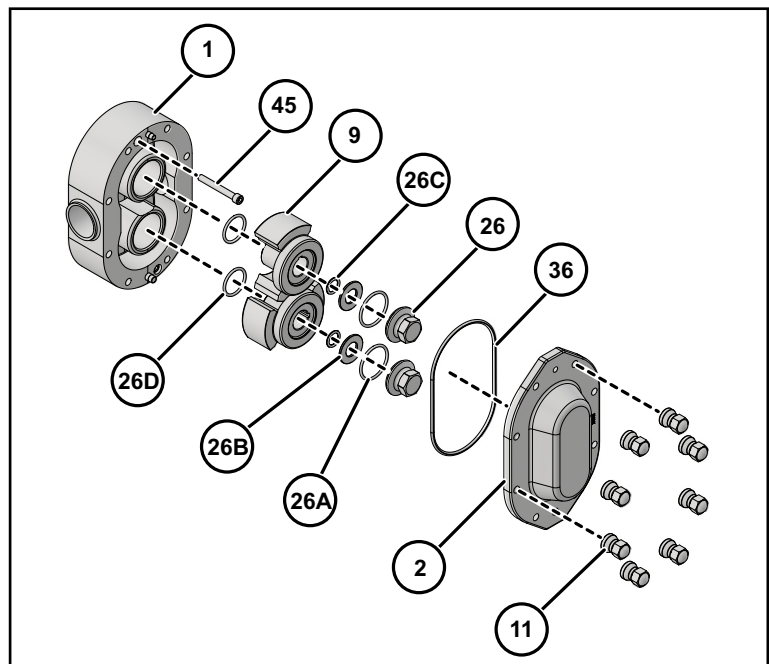
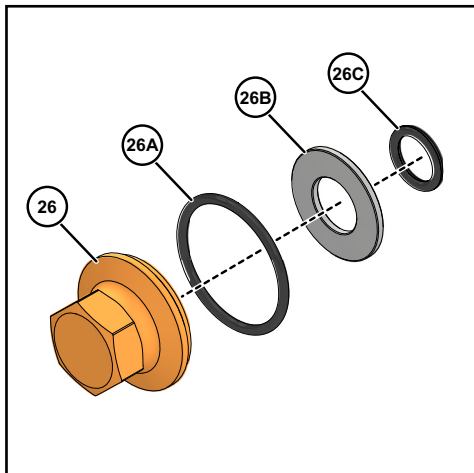
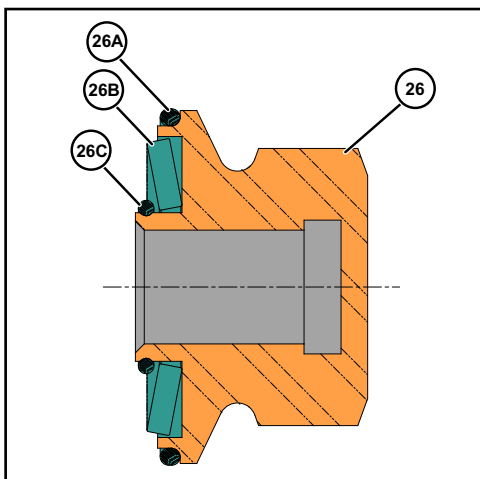

Figure 72 - Exploded View of Fluid Head
Figure 73 - Rotor Nut Assembly
Figure 74 - Cross-Section View of Rotor Nut Assembly, as Assembled
2. Install the body (Figure 72, item 1) to the gear case assembly, aligning the body with the body studs. Avoid damaging the seals as the body is drawn over the shafts.
3. Secure the body to the gear case using two cap screws (Figure 72, item 45).
1. Lubricate the rotor hub O-ring (Figure 72, item 26D) with a lubrication compound compatible with the O-ring material and process fluid(s).
2. Install new rotor hub O-rings (item 26D) into the groove on the rotor hubs.
3. Install the rotors (item 9) onto the shafts.
4. Align the keyways in the rotors with the keyways on the shafts and install the keys (item 26E).
NOTE: For rotor nut assembly detail, including orientation of the belleville-style washer (item 26B), see Figure 73 and Figure 74 on page 55.
See Figure 72 on page 54, and Figure 73 and Figure 74 on this page.
1. Clean the cover O-ring (See Figure 72 on page 54, item 36) and install it in the groove in the cover.
3. Install the cover (See Figure 72 on page 54, item 2) on the pump body.
5. Tighten the cover securely using the cover nuts (See Figure 72 on page 54, item 11) and Table 15.